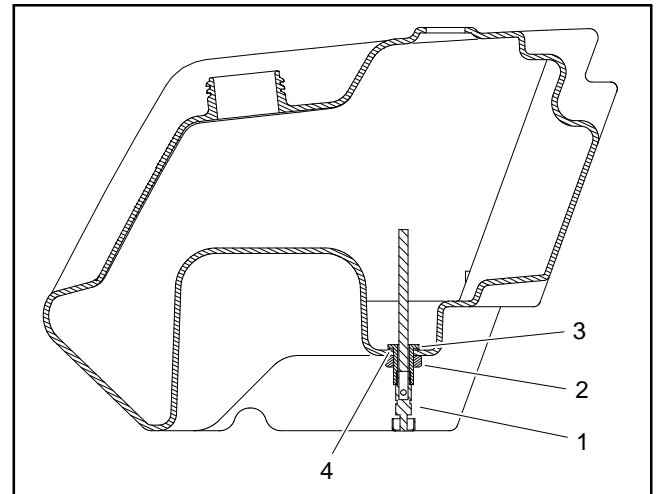

Figure 8
1. Park machine on a level surface, disengage and lower cutting units, move functional control lever to neutral (N), engage parking brake, stop the engine and remove the key from the ignition switch. Wait for all machine movement to stop.
- A. Close fuel shut-off valve (item 29).
- B. Disconnect fuel supply hose (item 13) at the fuel filter (item 16) and drain any fuel trapped in the fuel filter and fuel hose into a suitable container.
3. Remove fuel hose (item 5) from fuel vent valve (item 31).
4. Remove four (4) cap screws (item 35), flat washers (item 34) and flange bushings (item 33) that secure the fuel tank to the tank mount plate (item 2). Remove the fuel tank from the machine.
5. If necessary, remove fuel supply hose (item 13) from fuel shut-off valve.
6. If necessary, remove shut-off valve and fitting assembly from fuel tank (Fig. 8). The nut and fitting have left hand threads.
1. Install fitting assembly and shut-off valve into fuel tank if they were removed from tank (Fig. 8). The nut and fitting have left hand threads.
A. Apply antiseize lubricant to the threads of the four (4) cap screws (item 35).
B. Secure fuel tank to the tank mount plate with four (4) cap screws (item 35), flat washers (item 34) and flange bushings (item 33).
4. Install fuel supply hose (item 13) to fuel shut-off valve and fuel filter. Secure supply hose with hose clamps.
5. Connect fuel hose (item 5) to fuel vent valve (item 31) and secure with hose clamp.